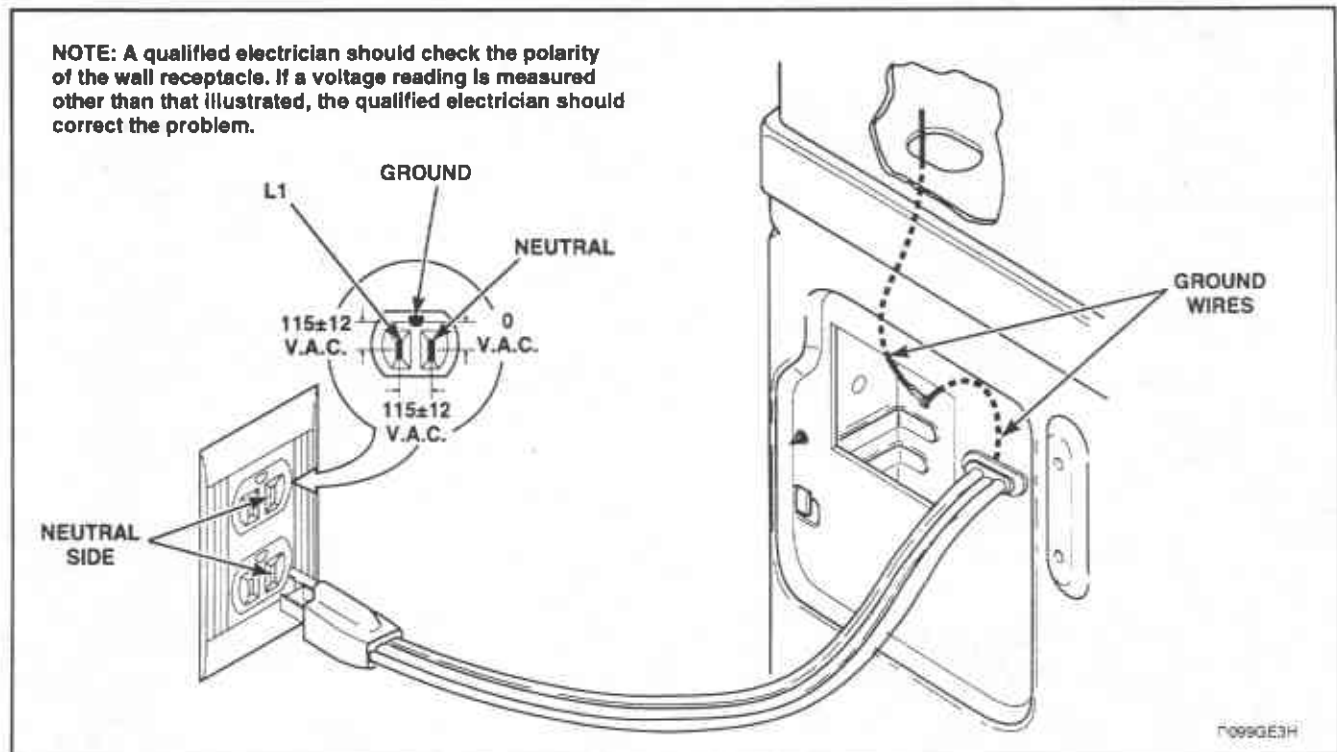

Figure 3
3. POWER CORD TO REAR BULKHEAD AND FROM REAR BULKHEAD TO CONTROL HOUSING. WALL RECEPTACLE POLARITY CHECK (Gas Models Only — Figure 3).